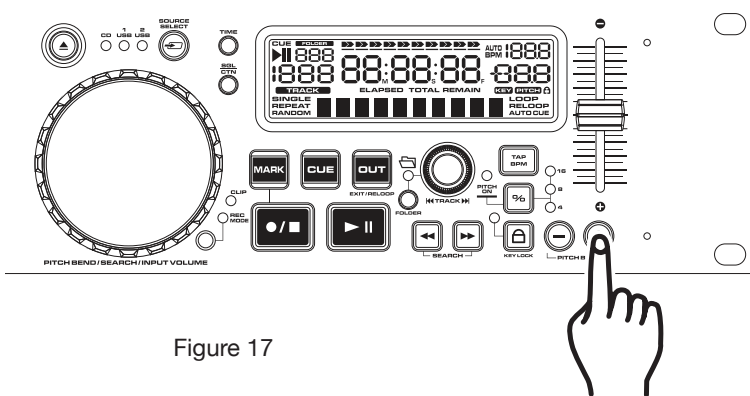

Figure 17
**Using the Pitch Slider Percentage Selector (9):** You may choose a pitch operating range at any time. To change the operating range be sure the pitch function is turned on, see figure 17. The pitch percentage can be changed between +/-4%, +/-8%, +/-16%, and 100%. 4% will allow the least amount of pitch manipulation and 100% will allow the most amount of pitch manipulation. To adjust the different values, press the *PITCH ON/OFF BUTTON* (9) and Tap on the % *BUTTON* (9) until your desired value is reached. The L.E.D. of the % *BUTTON* (9); glowing yellow for 4%, glowing green for 8%, or glowing red for 16%, and all LEDs glowing for 100%.